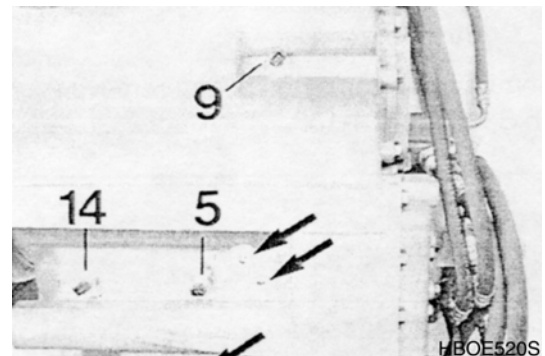

Figure 365
9. Install inductive transmitter N engine (9, Figure 365), N turbine (14) and N central gear train (5).
10. Now, install screw plugs (Figure 365).